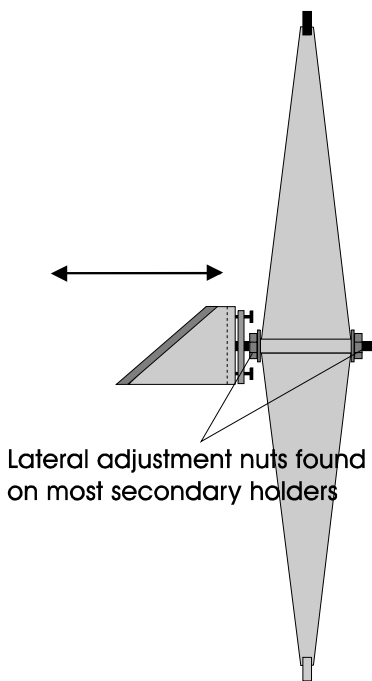

Figure 3. Lateral adjustment
**Without offset / center spot on secondary mirror** - Replace the secondary mirror and holder and position it under the focuser so the crosshairs are centered on the center spot. Washers or the adjustment nuts can be used to position the secondary (see **Figure 3**).